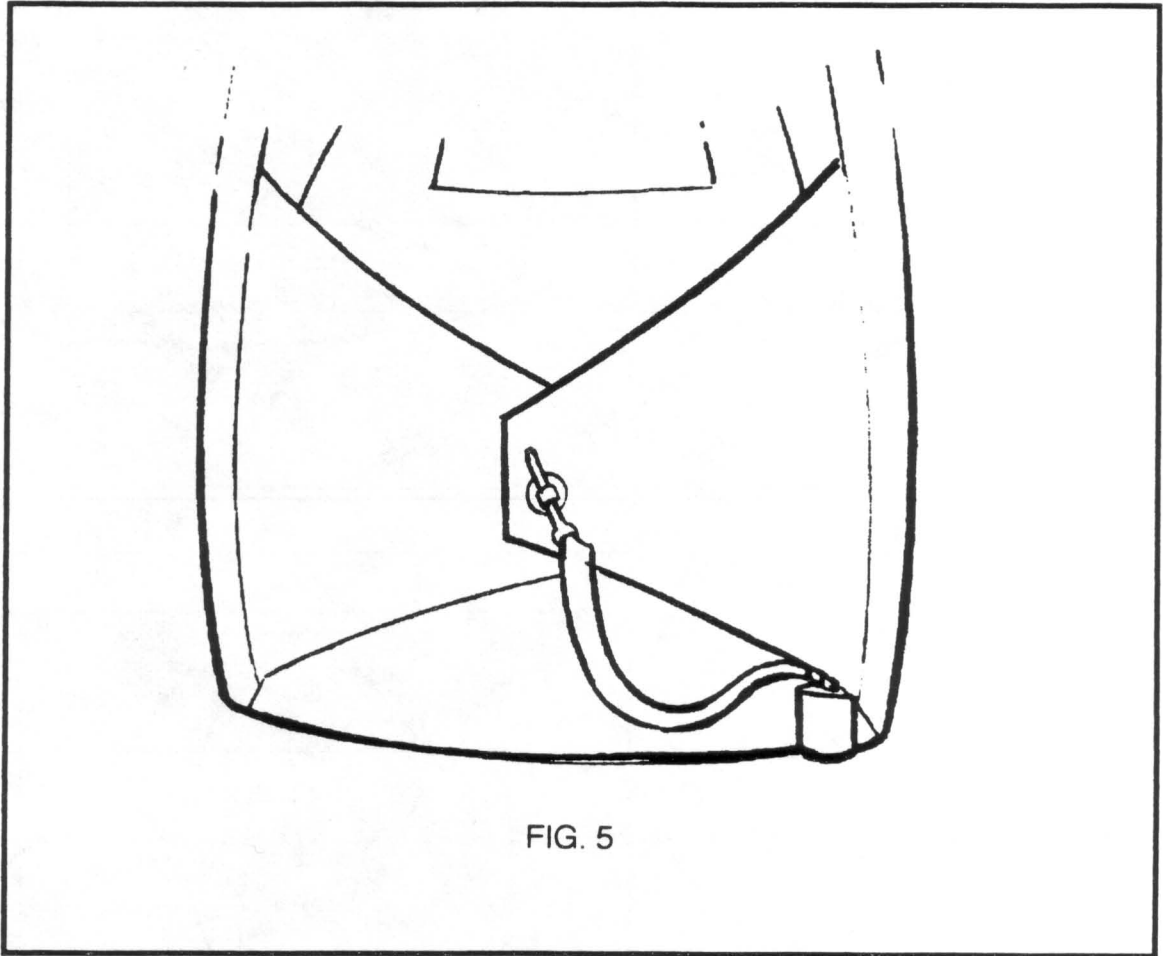

FIG. 5
- 3) Tuck about 12 inches of bridle under right side flap being sure to make it snag proof and secure. (FIG. 5)
5) Close the left side flap, then the right side flap, securing the closing loop with the pin. (FIG. 5)